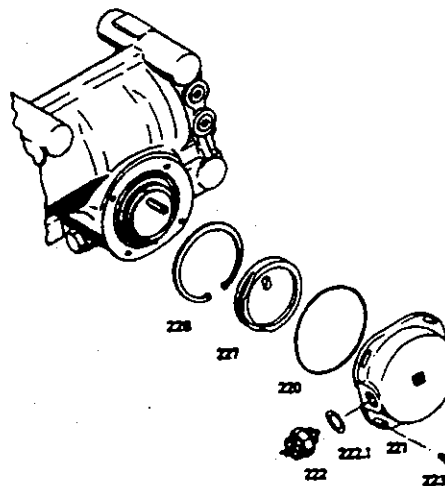

Fig.44
Insert cam disc (227) in housing cover (221) so that the cam ways point towards switch (222) (Fig.44).